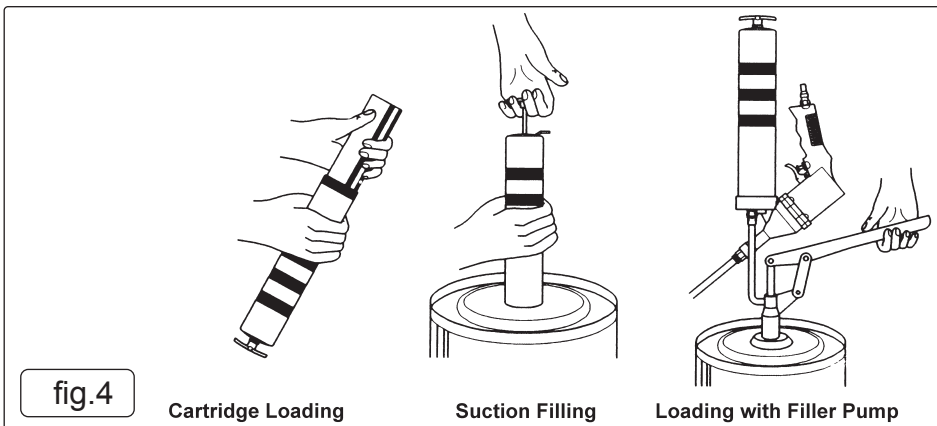

fig.4
- 5.1.12. Remove head assembly of grease gun by rotating it in counter-clockwise direction. Release plunger handle and allow the handle to move to its most forward position. Insert the open end of the barrel into the grease. See fig.4.